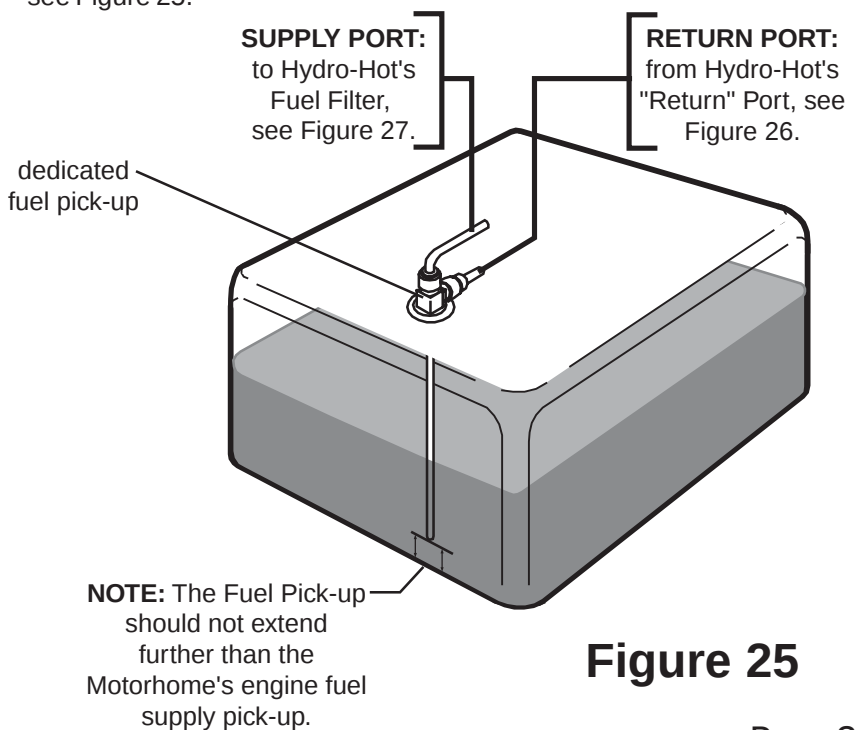

Figure 25
- A. The diesel fuel supply should be drawn directly from the Vehicle's main Fuel Tank or from a separate auxiliary Fuel Tank, if applicable. The Fuel Tank should be equipped with a dedicated fuel pick-up ("Supply" port and "Return" port), see Figure 25.
3. Connect the **Supply** and **Return** lines to the Fuel Tank / fuel pick-up, see Figure 25.